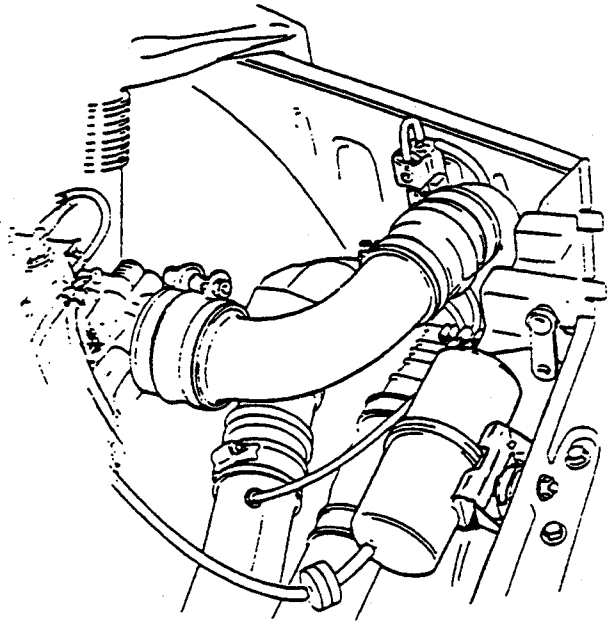

Figure 3. Vacuum Tank and Vacuum Hoses
3. Remove the vacuum tank and its vacuum hoses. Plug the hose connection on the intake pipe and the nipple on the pressure pipe by means of rubber plug P/N 83 35 614 (figure 3).